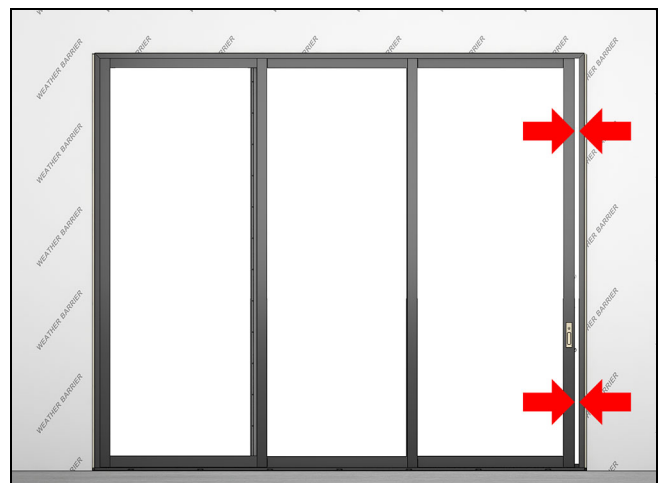

Figure 94
6. Recheck for an even reveal and repeat the previous steps if necessary. See Figure 94.